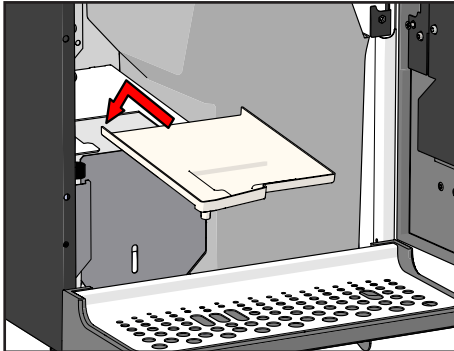

Figure 45. Replace brewer drip tray
11. Replace the drip tray into the machine (see Figure 45).